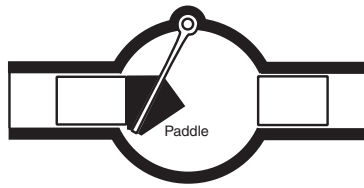

Fig. 4. Diagrammatic plan view of a paddle valve.
2. The *swivel paddle type* (Fig. 4) has a swing arm with a flat-faced rubber paddle (or rotating ball) that sits firmly across the machined face of a tubular outlet insert, providing 100% tight closure.